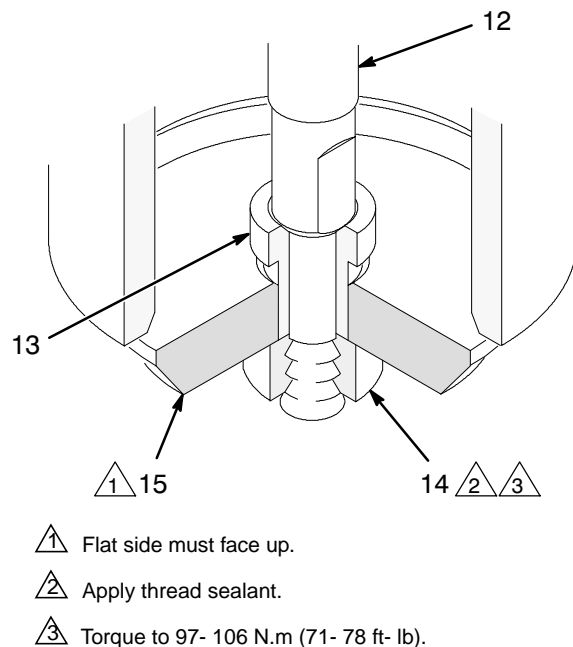

Fig. 12
16. Lubricate the throat packings and glands, and install them in the outlet housing (19) one at a time in the following order, **with the lips of the v-packings facing down**: the male gland (23\*), one UHMWPE v-packing (22\*), one PTFE v-packing (24\*), UHMWPE (22\*), PTFE(24\*), UHMWPE (22\*), and the female gland (21\*). Apply thread lubricant to the packing nut (2) and install it loosely in the outlet housing.
17. Lubricate the seal (39\*) and place it on the top edge of the cylinder (4). Set the outlet housing (19) on top of the cylinder.
18. Install the six long capscrews (32) through the outlet housing (19) and into the intake housing (17). Using a socket wrench, torque the screws oppositely and evenly to 244- 264 N.m (180- 195 ft- lb). Remove the pump from the vise and place it on its side.
19. Check that the flats of the priming piston rod (12) are accessible below the intake housing (17). If not, tap on the top of the displacement rod (1) with a rubber mallet, until the flats are exposed.
20. Slide the priming piston guide (13) onto the rod (12) until it stops. Then install the priming piston (15), with the flat side facing up toward the pump. Apply thread sealant to the threads of the priming piston nut (14). Hold the rod (12) steady with an adjustable wrench on the flats, and screw the nut (14) onto the rod with another wrench. Torque to 97- 106 N.m (71- 78 ft- lb). See Fig. 12.